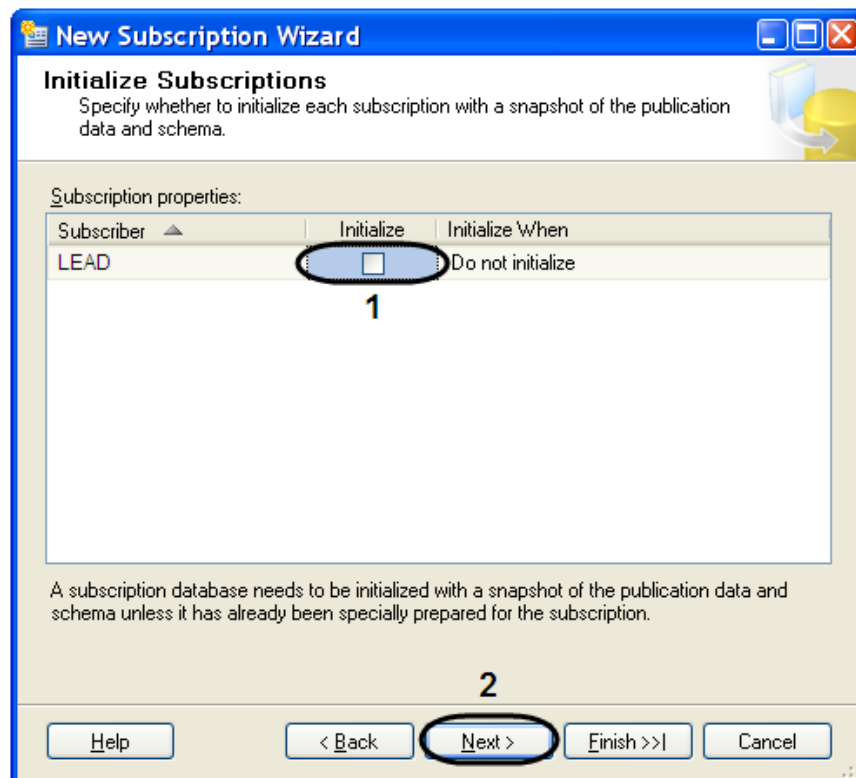

Fig. 9.3-19 Subscriber initialization
- 18.1. Set the checkbox «Initialize» in case of adding the first publishing server (Fig. 9.3-19, 1).
- 18.2. Uncheck the checkbox «Initialize» in case of adding the second and further servers (Fig. 9.3-19, 1).
19. Click Next to continue (Fig. 9.3-19, 2).